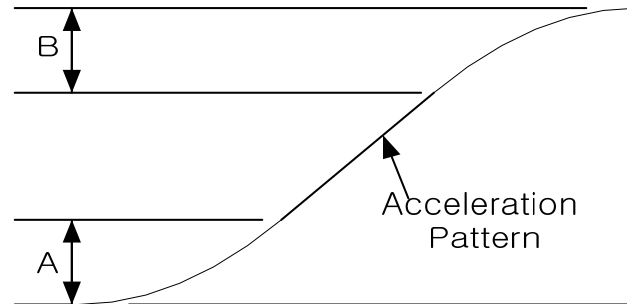

Figure 4.11 Acceleration Pattern
4.1.4 FLOOR DATA - The floor information value about each floor is displayed. 4.2 PROGRAM 4.2.1 CONTROL 4.2.1.1 EL SPEED - Elevator rated speed is input.[MPM] 4.2.1.2 MAX RPM - The maximum rotation speed of the motor is input.[RPM] 4.2.1.3 LONG RUN RPM - The rotation speed of the motor for LongRun mode is input.[RPM] 4.2.1.4 INSPECT RPM - The rotation speed of the motor for the elevator Inspection is input.[RPM] 4.2.1.5 CREEP RPM - The rotation speed of the motor for CREEP mode is input.[RPM] 4.2.1.6 RELEVEL RPM - The rotation speed of the motor for RELEVEL mode is input.[RPM] 4.2.1.7 DECEL POINT2 - The DECEL POINT2 is to set a voice message broadcasting point when the elevator is landing at the stop floor. The initial value is 1.5M. 4.2.1.8 S-CURVE TIME - When the elevator accelerates as the pattern of Long Run and INSPECT, the s-curve acceleration pattern is used for smooth riding feeling. As the figure 4.11, there are two s-curve patterns in each period A and B. S_ACC_START is for the period A and S_ACC_ARRIVE is for the period B.